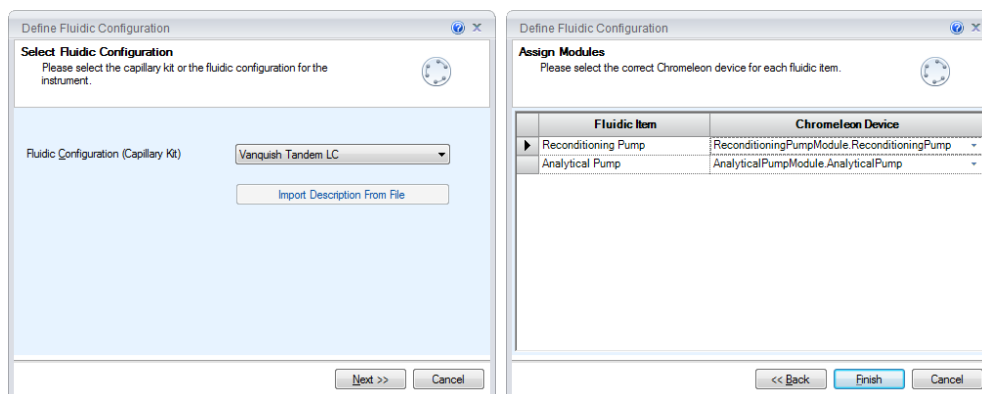

Figure 10: Fluidic Configuration Wizard
- c. Finish the wizard and check the Audit Trail if the Fluidic Configuration was saved appropriately (Figure 10).